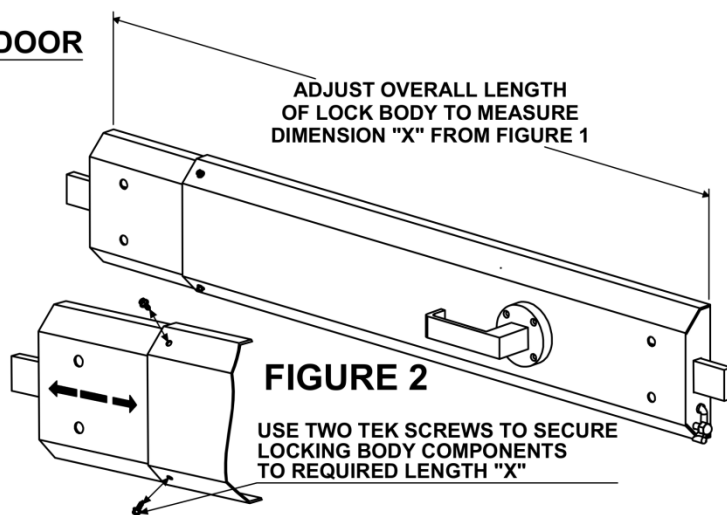

FIGURE 2
6. Measure the distance between the two marks & adjust lock body to that length. Fix into position using 2x tek screws. (Fig. 2)